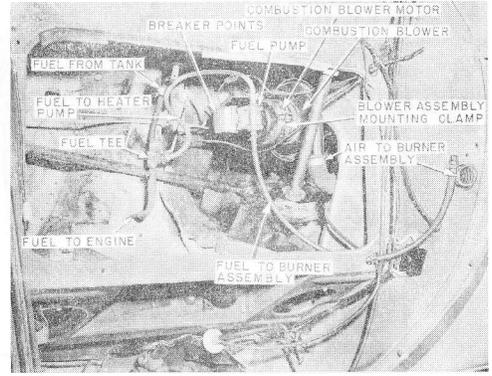
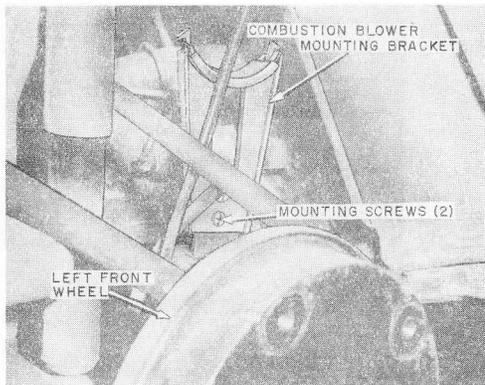

FIGURE 2
FIGURE 7
1. Fit the flat side of the blower mounting bracket on the outside of the left front wheel hydraulic brake line support bracket. The central "U" shaped opening in the bracket will fit around the hydraulic line which need not be disturbed nor disconnected. (See Figure 7)
3. Attach the bracket with two (2) 1/4-20 x 1/2 hex head cap screws and lockwasher nuts.
5. Fit the combustion air blower assembly on the saddle with the blower housing on the left side and the blower outlet facing forward. (See Figure 2)
6. Hook the two clamps over the hooks on the mounting bracket and install the clamp screw loosely to hold the blower in position. (See Figure 2)
1. Cut the flexible engine fuel line about 2-1/2 inches from the end that connects to the tank fuel valve and install the heater fuel tee, using the two small hose clamps provided in the kit. (See Figure 2)
2. Connect the free end of the heater fuel line (already attached to the tee) to the inlet of the fuel pump. The fuel pump cover is marked "IN" and "OUT". (See Figure 2)